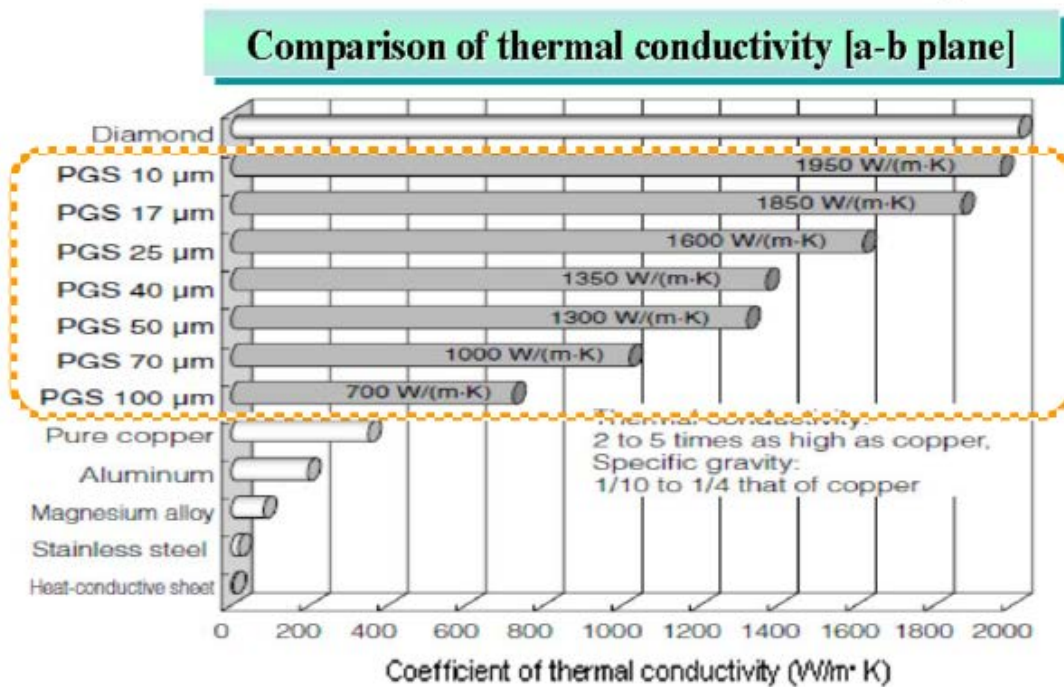

Fig 2.
- it is very thin – available in a range of thicknesses from 100µm down to 10µm – and has excellent thermal conductivity from 700 to 1950W/m.K which is two to five times higher than copper and up to seven times better than aluminium (see fig 2)